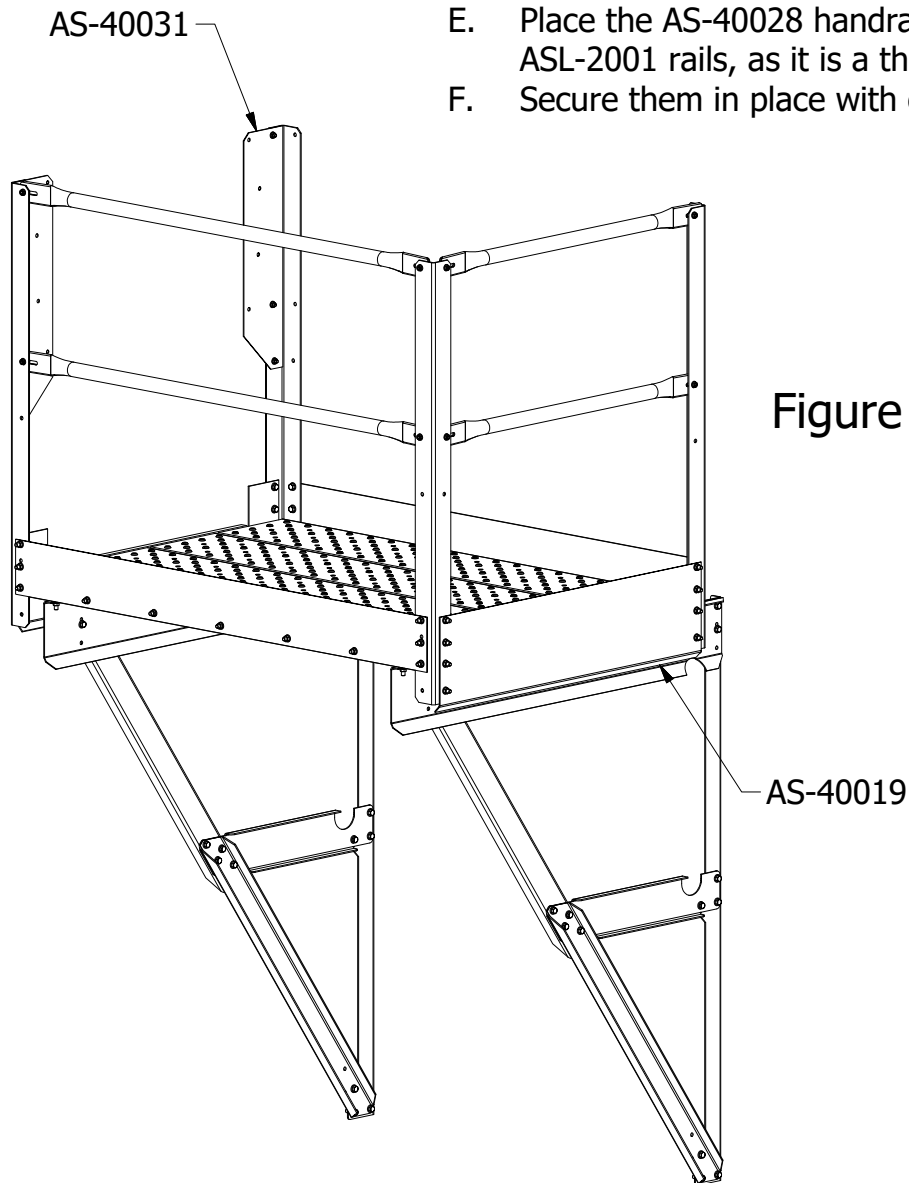

Figure 4
- B. Secure in place using eight (8) 3/8" Flange Bolts and eight (8) 3/8" Lock Nuts.
- C. Place the two (2) AS-40031 handrail platform brackets onto the two (2) AS-40018 entry posts. Refer to Figure 4 for placement.
- D. Secure the brackets to the posts using three (3) 5/16" Flange Bolts and three (3) 5/16" Lock Nuts on each bracket, for a total of six (6).
- F. Secure them in place with eight (8) 5/16" Flange Bolts and eight (8) 5/16" Lock Nuts.